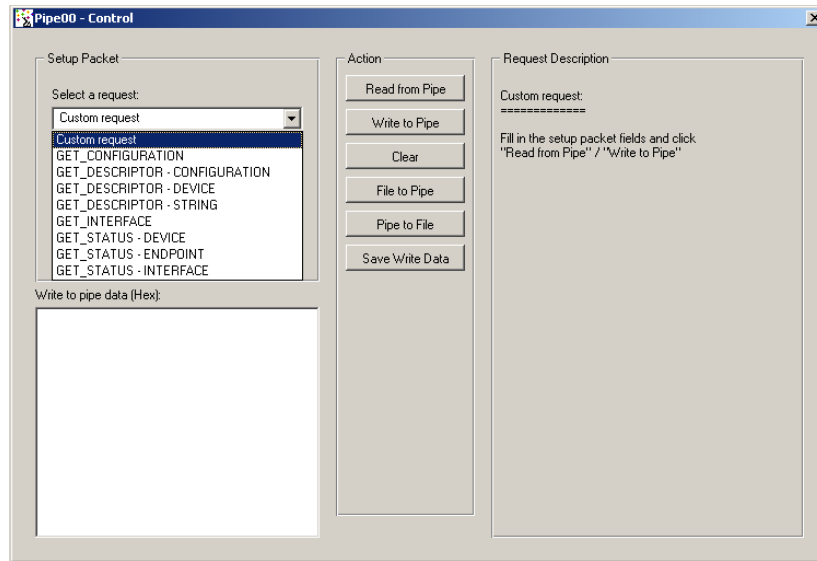

Figure 9.4: Request List
- For a standard USB request: select a USB request from the request list, which includes **GET_CONFIGURATION**, **GET_DESCRIPTOR CONFIGURATION**, **GET_DESCRIPTOR DEVICE** and more (see Figure 9.4). Each standard USB request is described on the right hand of the dialog box when selected.